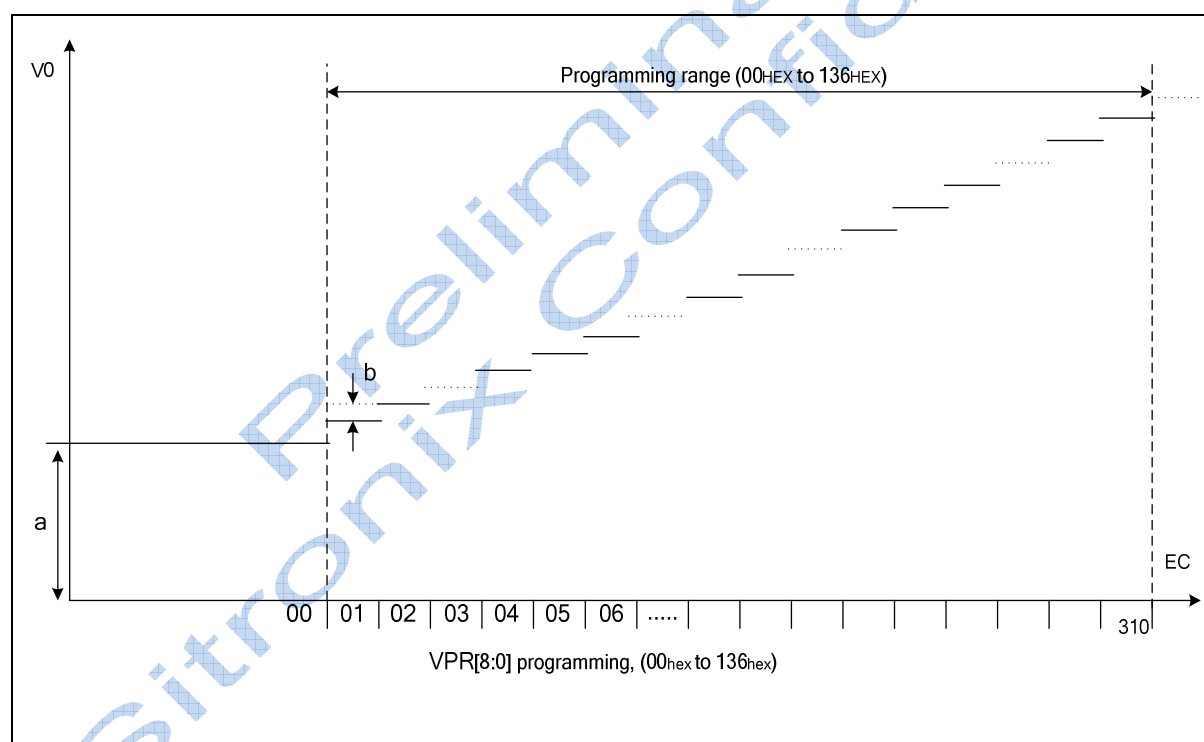

Figure 28 V0 programming range
The VPR[8:0] value must be in the V_0 programming range as given in **Figure 28** Evaluating equation (1).